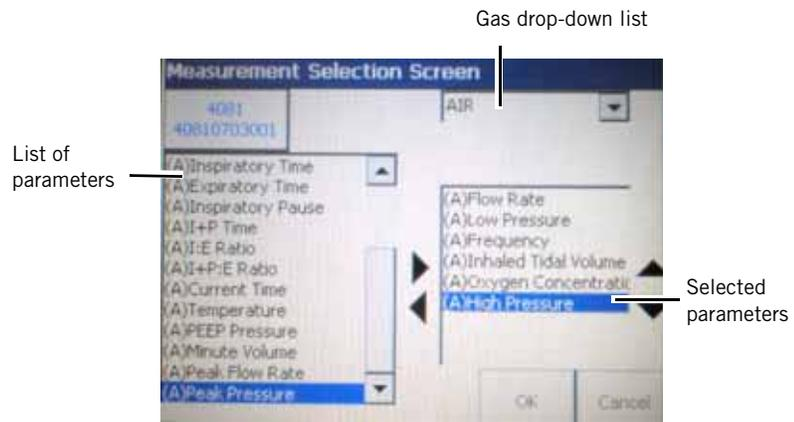

Figure 8-4: Measurement Selection Screen
2. To add parameters, touch the parameter and then touch the right direction arrow. To remove parameters, touch the left direction arrow (refer to Figure 8-4).
4. When the appropriate parameters are selected and placed in the desired order, touch **OK** (refer to Figure 8-4).